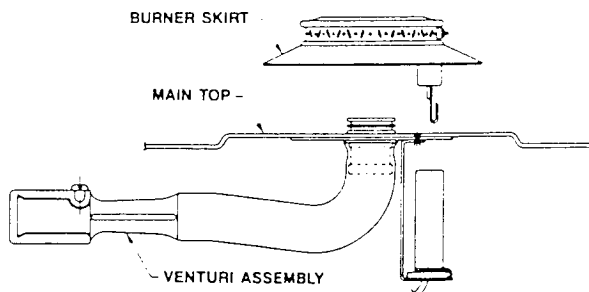

Figure 27
Lift off four (4) burner caps. (See Figure 27.) Remove one (1) screw at each burner body. Pull each burner body upwards and disconnect the ignition wire at the electrode. Mark wires for identification on reassembly. Remove one (1) flat headed screw at each burner and lift off main top.